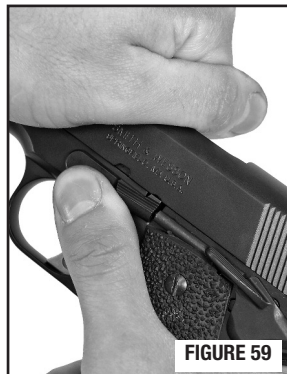

FIGURE 59
- Push the slide stop pin all the way in so that its rearward tab passes through the take down notch. Press the slide stop fully against the frame (FIGURE 59).